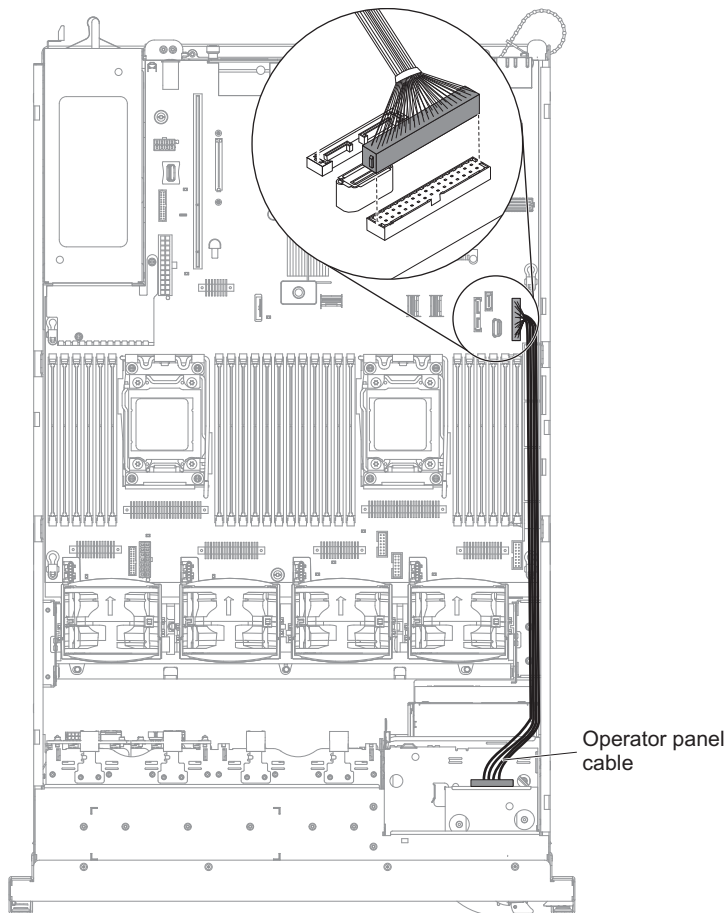

Figure 165. Connecting the 2145-DH8 operator-information panel cable
4. To connect the operator information panel cable on the system board, press evenly on the cable that is shown in Figure 165 on page 197. Pressing on one side of the cable might damage the cable or connector.